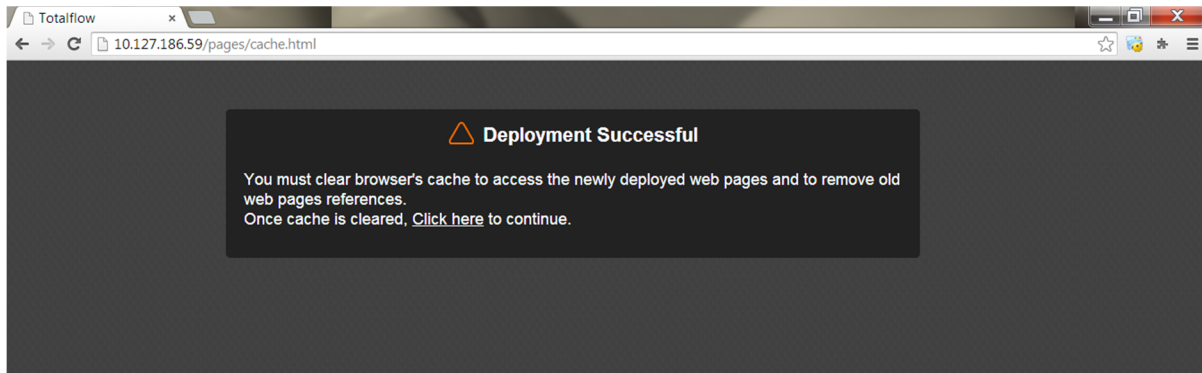

Figure 12: Clear Cache
7. Following a successful restart, the browser redirects to a page with a message to clear the cache (Figure 12). This enables access to just uploaded web pages.